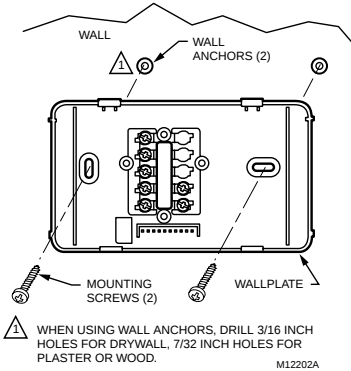

Fig. 3. Mounting wallplate to wall.
- ❑ Position the wallplate on the wall. Level the wallplate for appearance, if desired. Use a pencil to mark the two mounting holes that best fit the application. See Fig. 3.